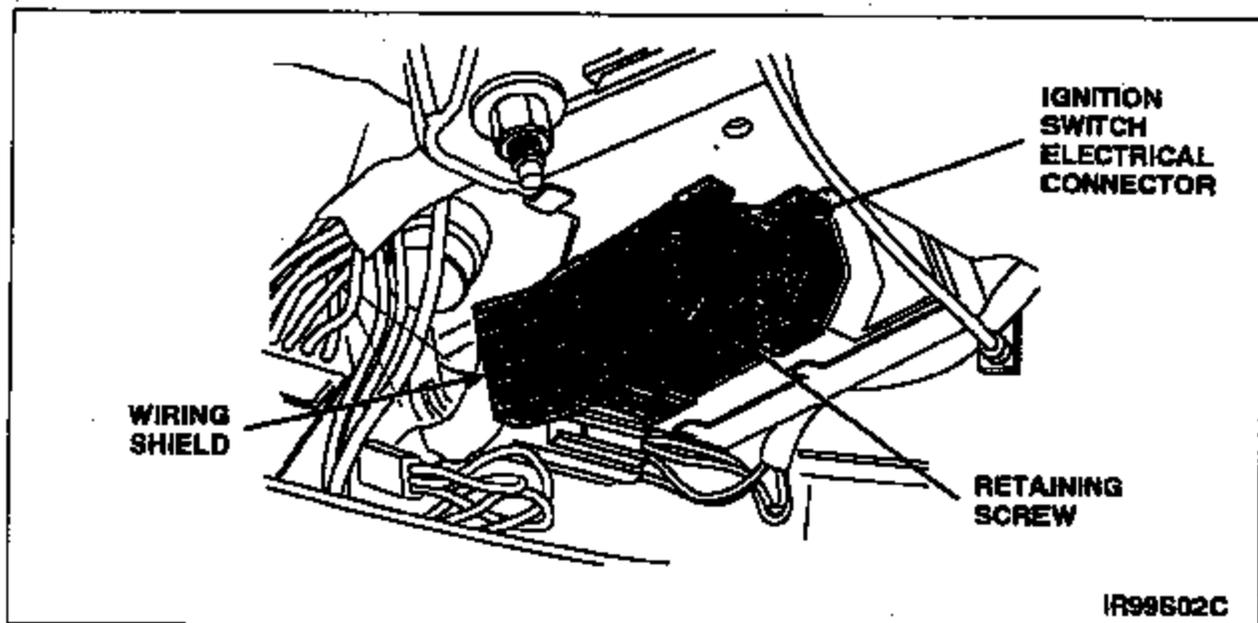

FIGURE 3
5. Completely loosen the ignition switch electrical connector retaining screw, then disconnect the ignition switch electrical connector. See Figure 3.